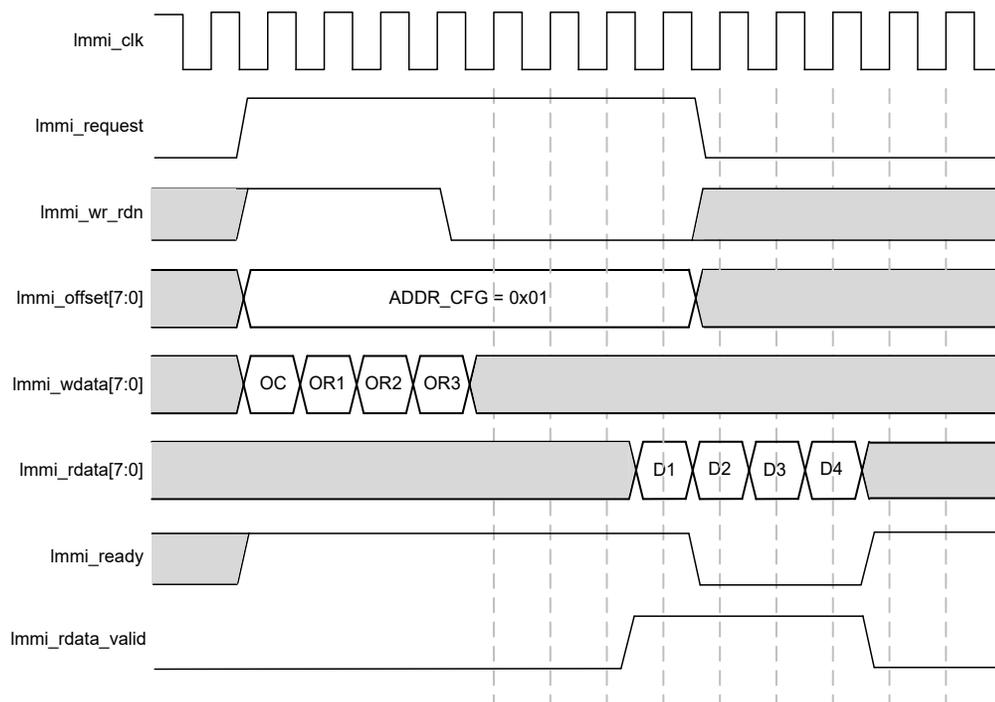
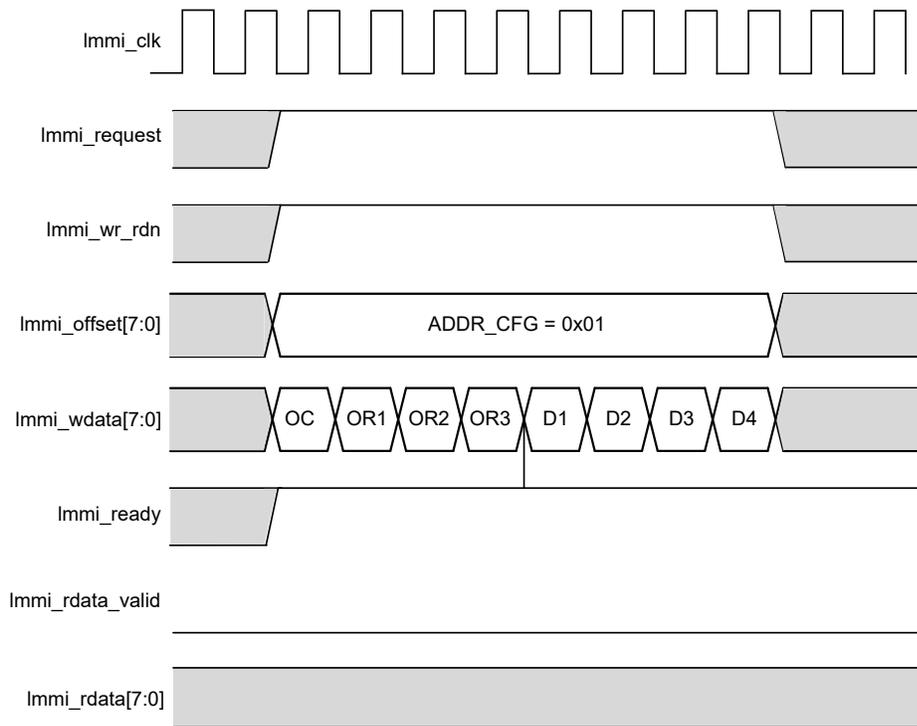
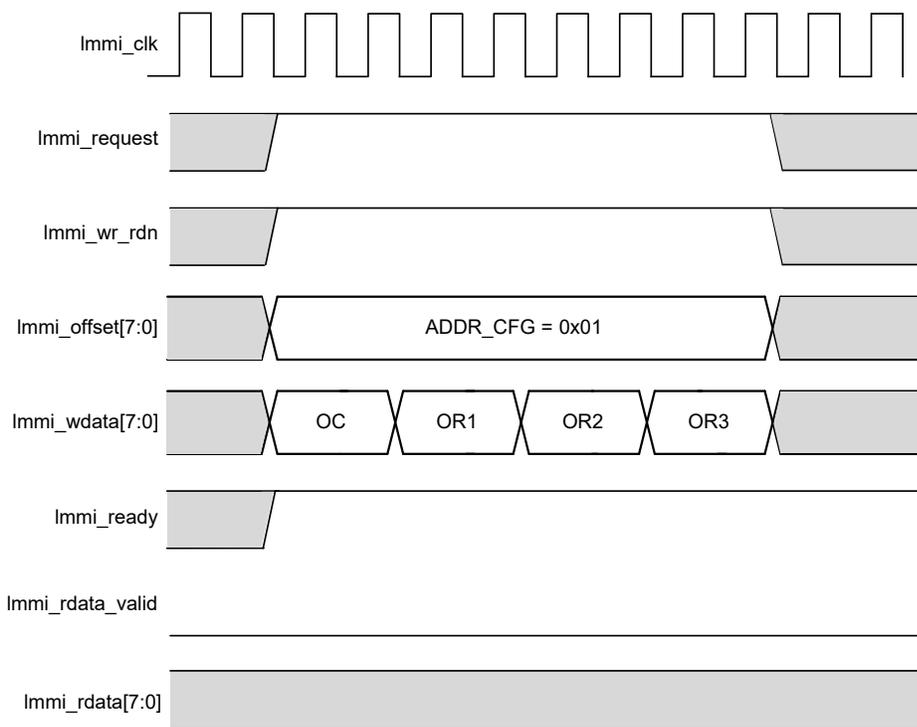

Figure D.4. LMMI Class A Commands Execution
Figure D.5. LMMI Class B Commands Execution
Figure D.6. LMMI Class C Commands Execution
The CONFIG_LMMI primitive has a hardware assigned `Immi_offset` with `ADDR_CFG=0x01`. To execute slave configuration command, LMMI host should perform four back-to-back write transfers: 1 byte Opcode (OC), 3 bytes Operands, which are OPERAND1 – OPERAND3 (OR1 –OR3), followed by the optional data bytes. The Class A command, Class B command, and Class C command execution are demonstrated in Figure D.4, Figure D.5, and Figure D.6.